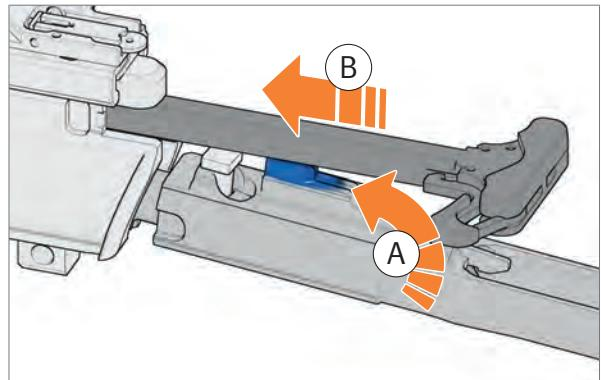

Fig. 121: Inserting bolt group into charging handle
3. Insert guide cam of bolt group into guide groove of charging handle (Fig. 121).